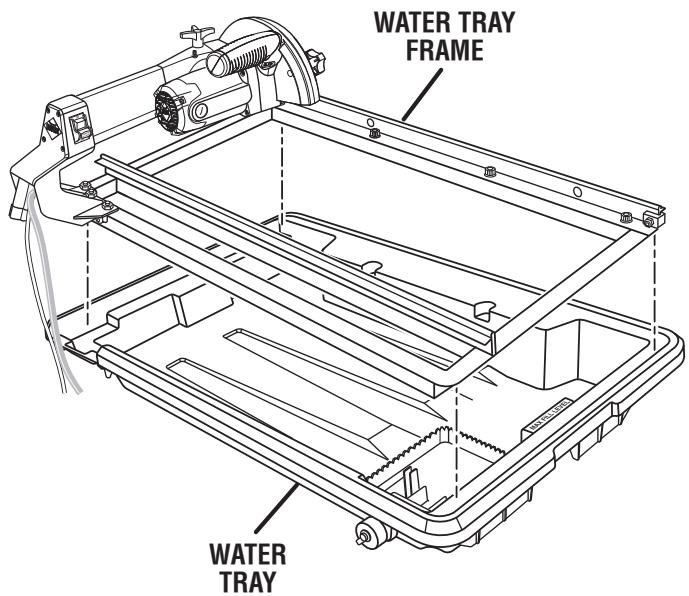

Fig. 8
- Place the frame on the water tray as shown in figure 8.